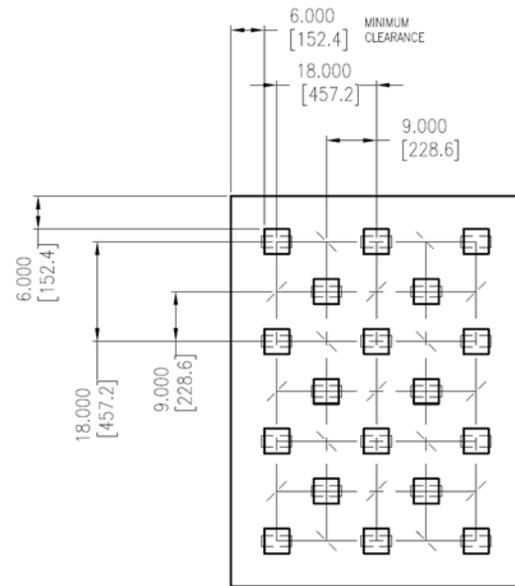

Figure 18. Example of 18" x 9" (45.7 x 22.9 cm) Anchor Pattern
- a. For vertical walls in coolers, kiln inlets, firing hoods or sloped floors in ducts and risers, arched ceilings, such as firing hoods, TAD or Calciner roofs, stagger horizontal rows of ceramic and metallic anchors on 18" (45.7 cm) centers and vertical rows on 9" (22.9 cm) centers as shown in Figure 18.